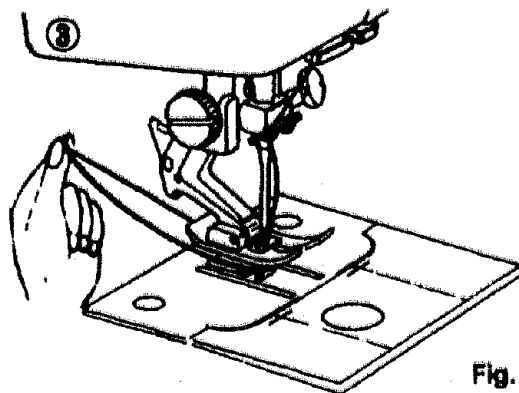

Fig. 3
3. Pull both threads under and to the back of the presser foot, leaving 3 to 4 inches of thread clear. (Fig. 3)